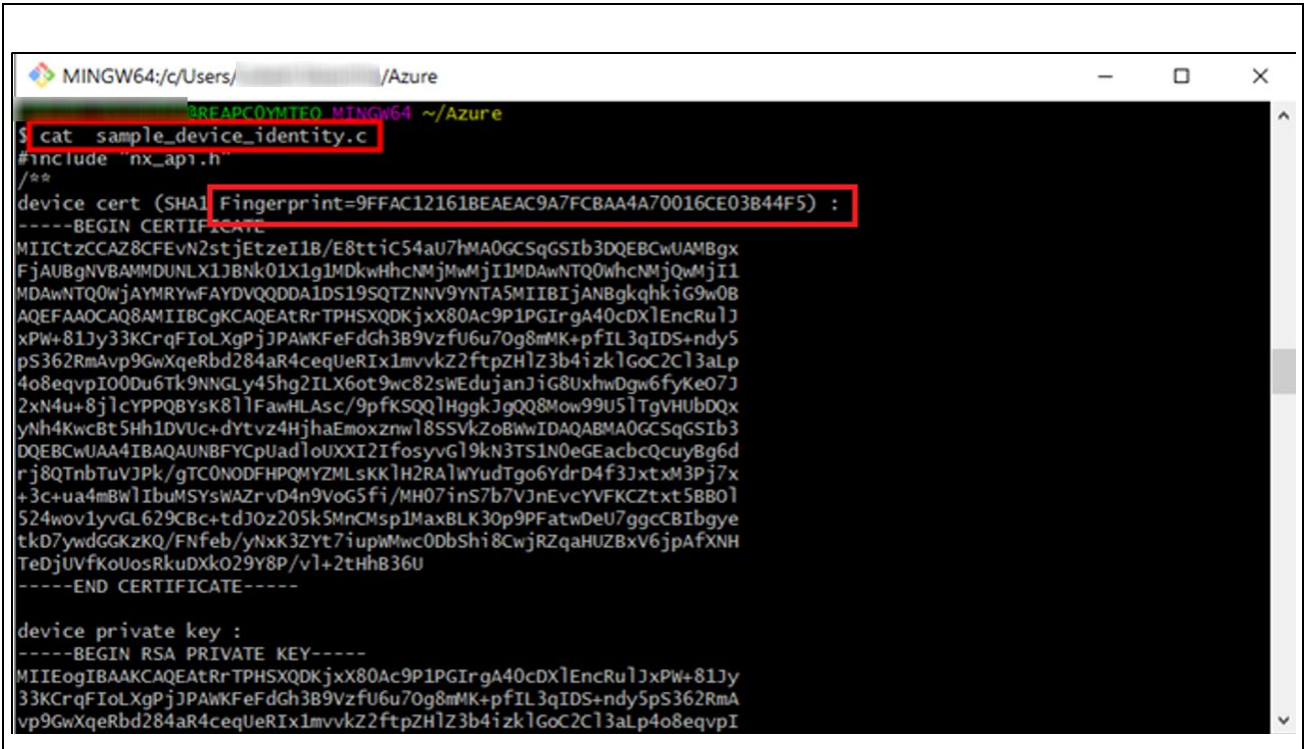
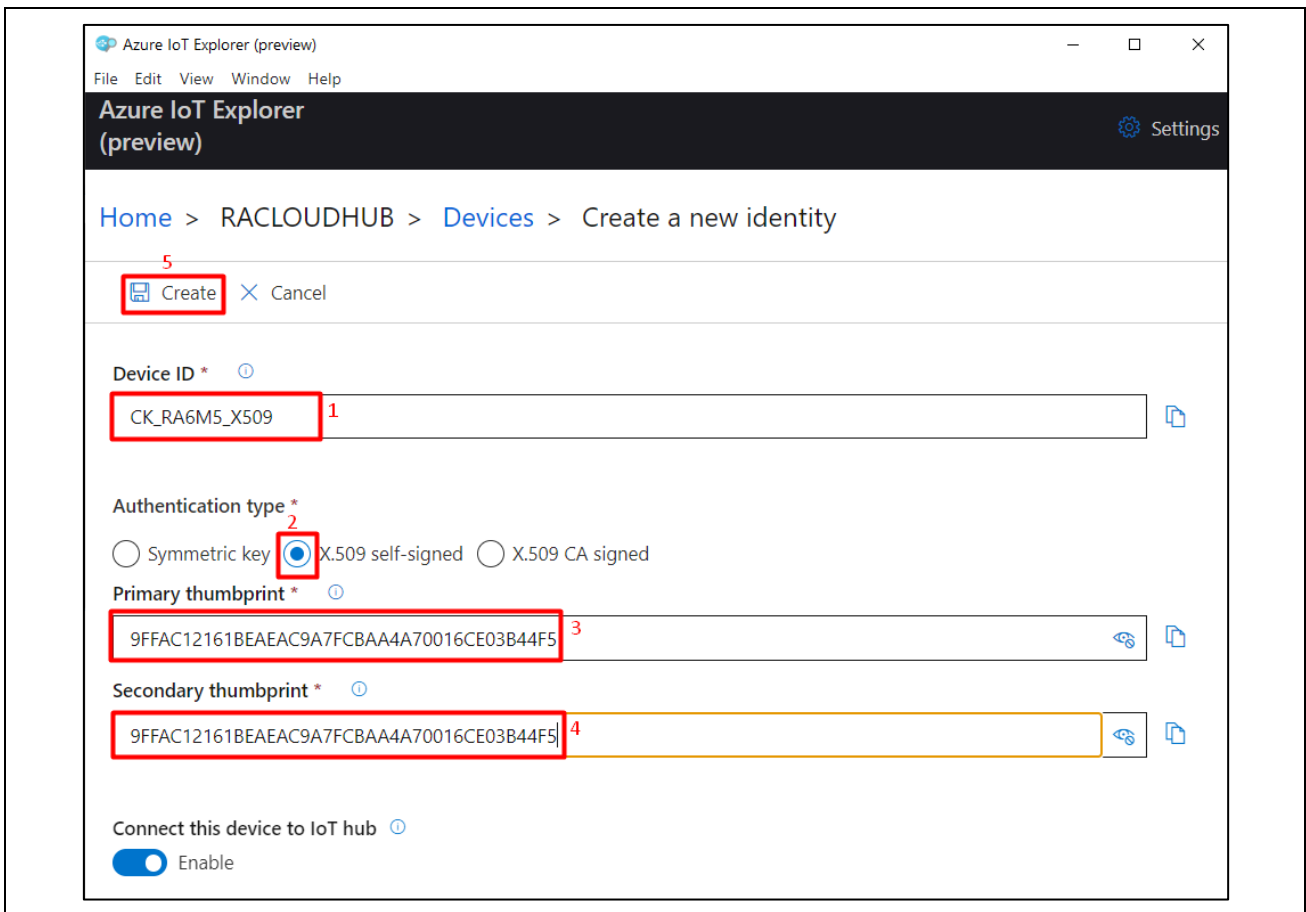

Figure 22. Check the Content of sample_device_identity.c
Figure 30. Naming, Authentication type, and Thumbprints
2. In this stage, you have to enter the Device ID, Authentication type, Primary thumbprint, Secondary thumbprint then click on **Create**. Use fingerprint generated in Figure 22 in the section 3.5. Certificate Creation Process, for the primary and secondary thumbprints. Follow steps 1-5 numbered in the Figure 30, to create the device.